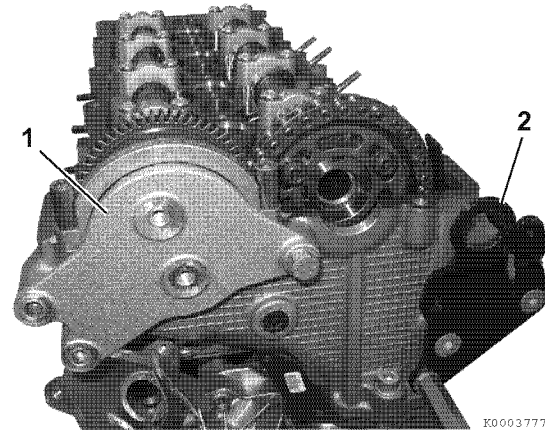

Figure 5-90
4. Remove cover (1, **Figure 5-90**) and bracket (2, **Figure 5-90**).